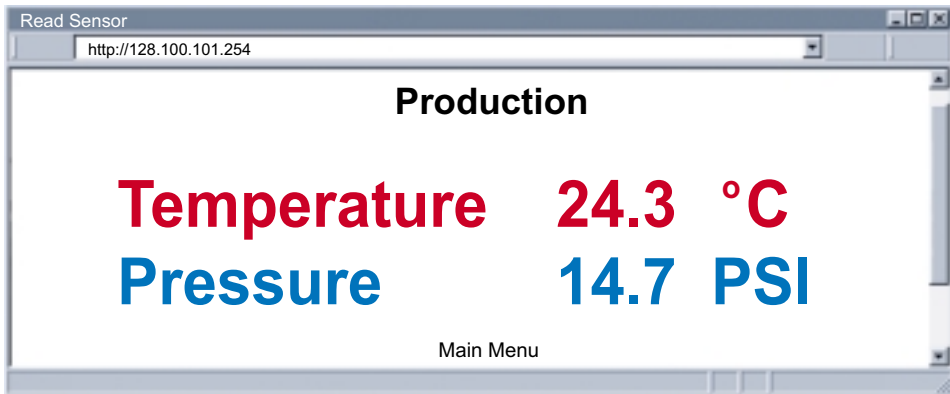

Figure 4.7 Read Sensor
- Click on Read Sensor. In a few seconds the following page (**Figure 4.7**) will appear with all default values of 100.00. Then the actual readings of Temperature and Air Pressure will be displayed.